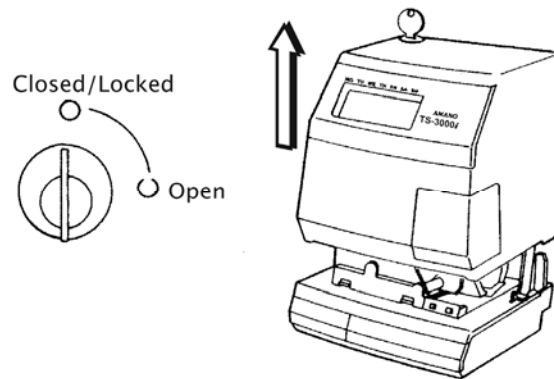

Figure 2-2. TS-3000i Web Clock Cover Removal.
Step 2. Insert the key, turn the key clockwise, and remove the upper cover of the TS-3000i (see *Figure 2-2*).
- Step 14. Replace the upper cover of the TS-3000i (see *Figure 2-2*).
- Step 15. Insert and tighten the two (2) top plate side retaining screws (one on each side).
- Step 16. Replace the upper cover of the TS-3000i (see *Figure 2-2*).